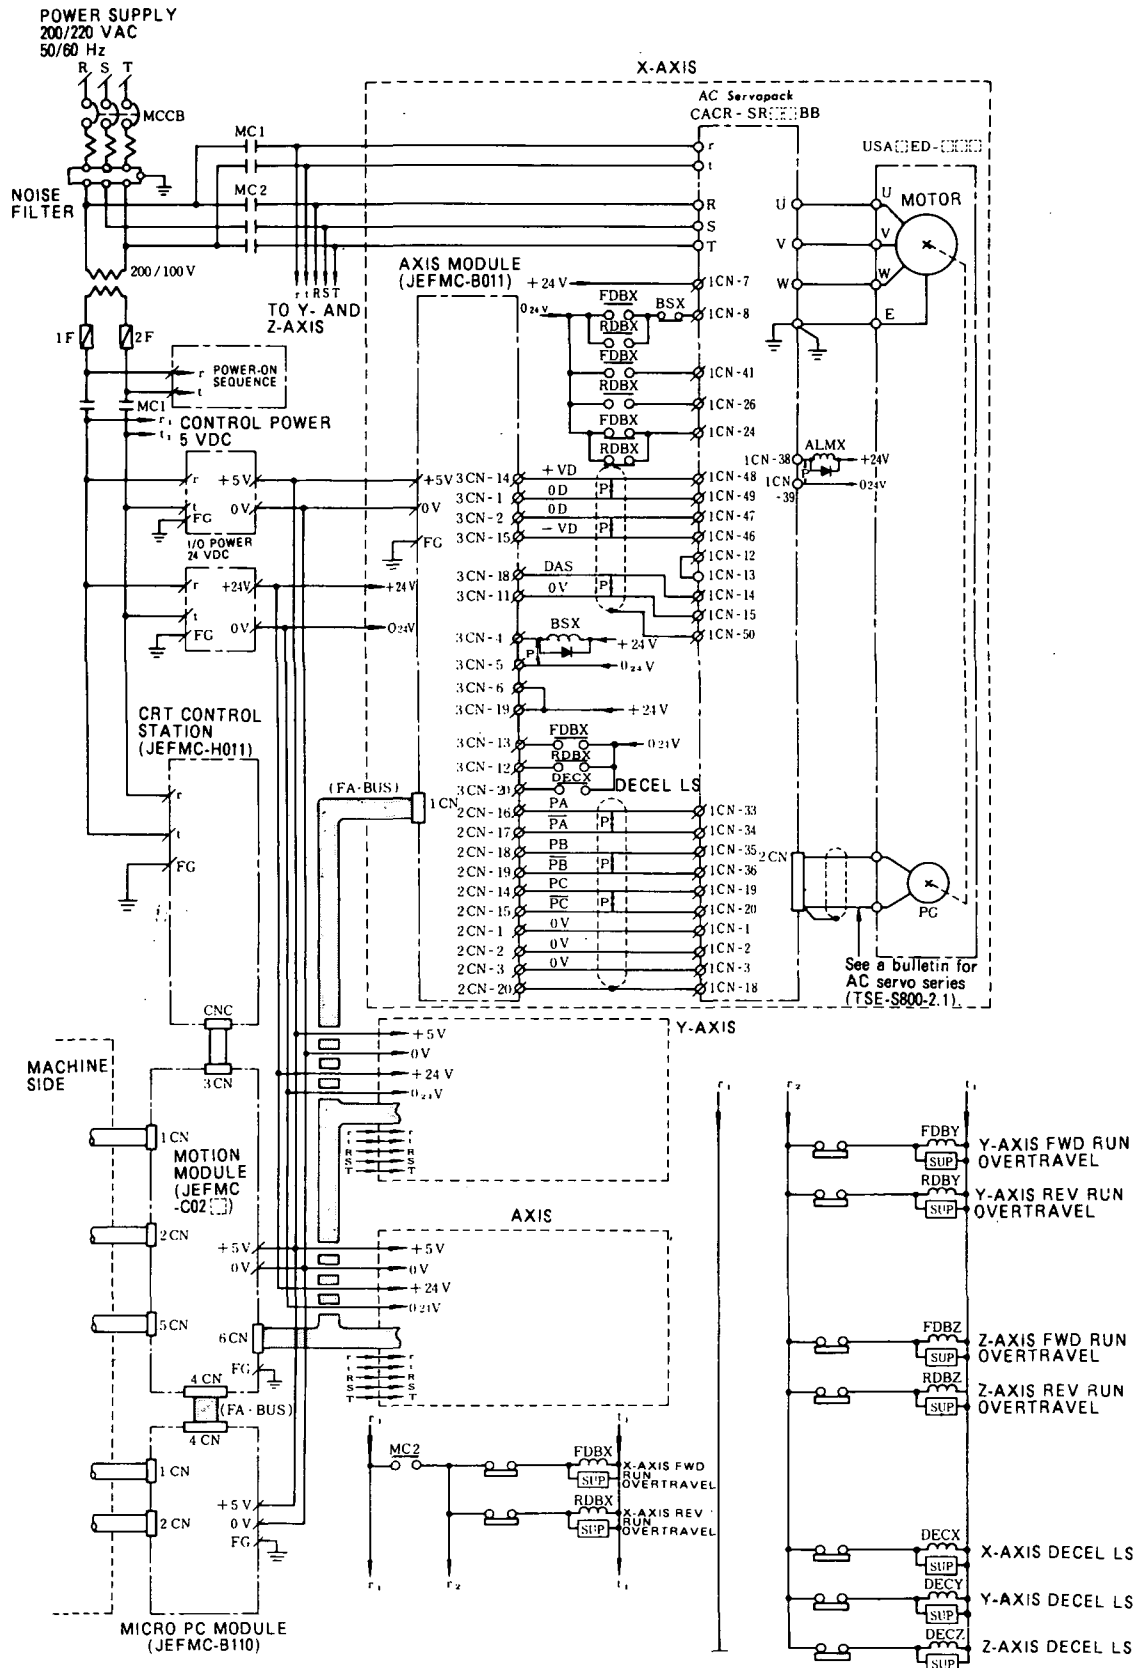

Fig. 12.10 Typical Connection of AC Servopack Type CACR-SR-110BB (M, F, S, Series, Rated Speed: 1000 rpm) and Motionpack-110
(3) Typical Connections of AC Servopack and Motionpack-110 (Figs. 12.10 ~ 12.13)